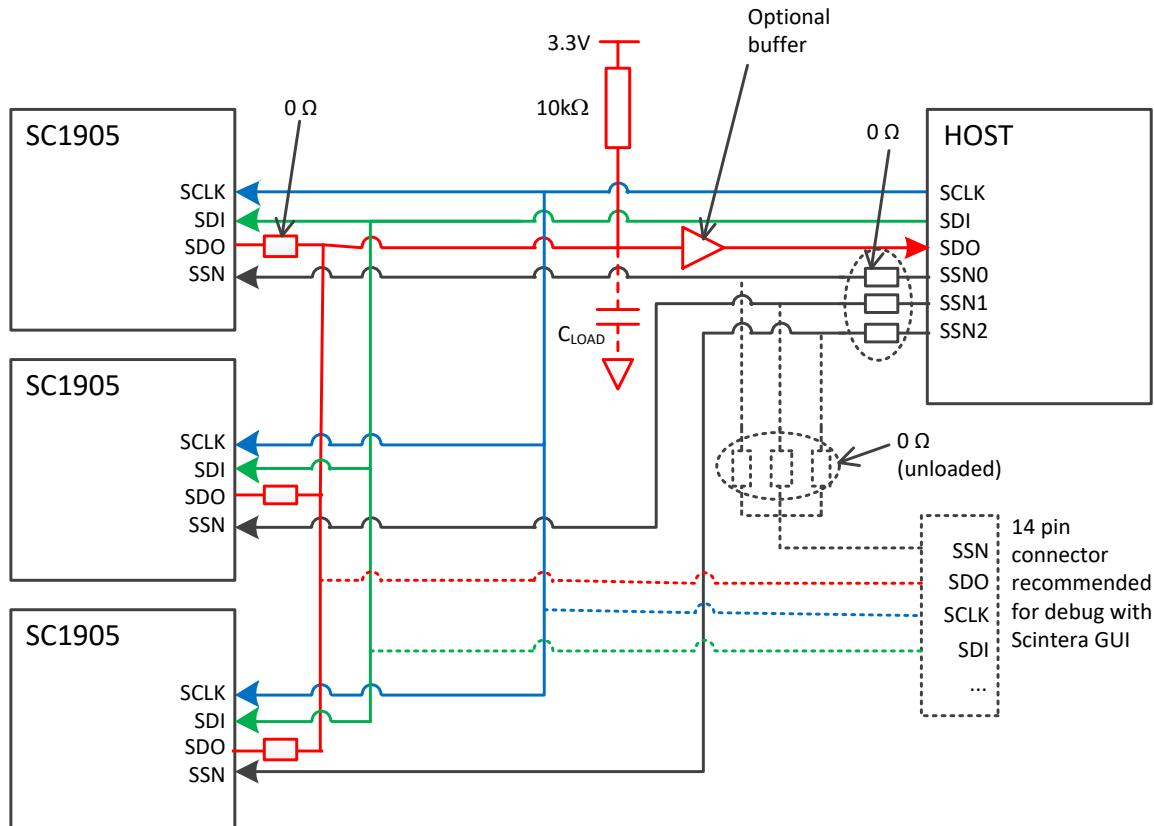

Figure 23. Host SPI connection for multiple SC1905 applications.
The SDI, SDO and SCLK signals can be shared amongst several SC1905 (Figure 23). One SSN per SC1905 is needed to communicate with a single linearizer. Special care must be taken when connecting long PCB traces at the SDO output since the capacitance (C_{LOAD}) increases. Refer to section 9.2.6 to calculate the maximum speed at which the SDO pins can be read (including the parasitic load capacitance C_{LOAD}).
The GUI can support only one RFPAL. Therefore, for multi-RFPAL applications it is suggested to include layout provisions for a series 0Ω resistors in the SDO line of each RFPAL as shown in Figure 23 and connect this component only for the SC1905 being tested to avoid any conflict with the inactive SC1905 while working with the GUI.
- b. If an SDO buffer is needed, the buffer must be placed after the point (a) as described in Figure 23.